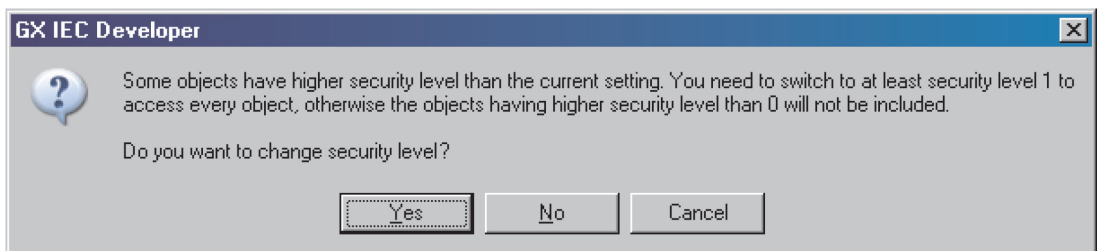

Fig. 4-28: *Security level warning*
- If the user chooses **No** in the message box shown in Fig. 4-28, the inaccessible objects will not be exported.
- Choosing **Cancel** in in the message box shown in Fig. 4-28, the process using the export functionality will be cancelled.